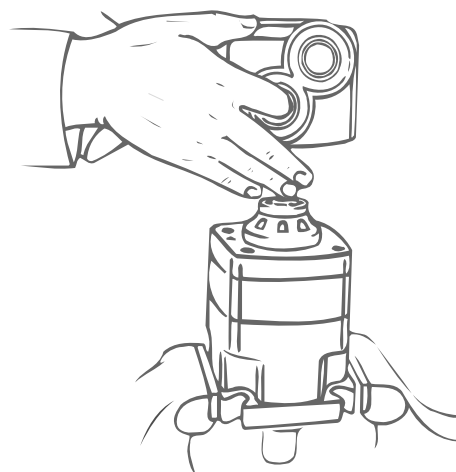
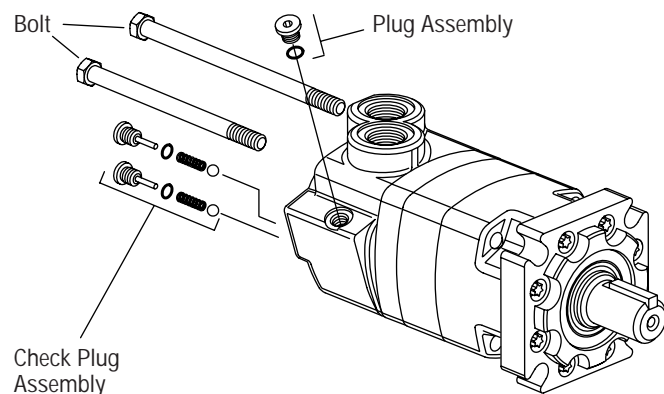
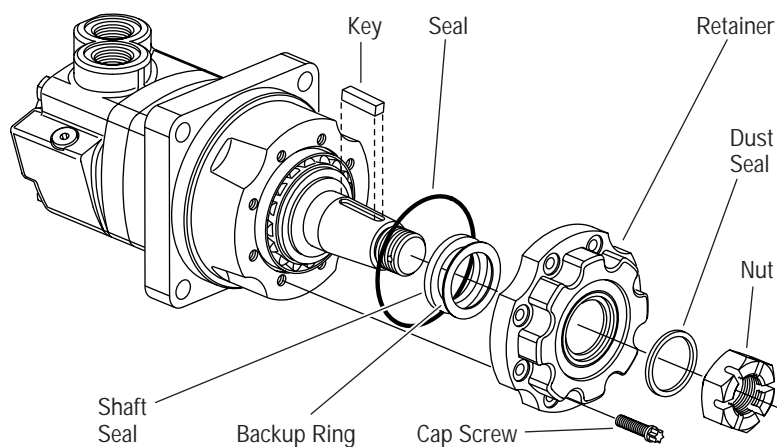

Figure 21
Figure 22
Figure 24
**44** Insert your finger through port of housing. Apply pressure to side of balance ring assembly. Hold ring in position until valve housing is in place (see Figure 21). Align case drain hole in housing with case drain hole in valve plate. Install valve housing against valve plate (see Figure 22).
**46** Install 2 check plug assemblies (ball, spring, plug with seal). Also install case drain plug with seal, parts shown in Figure 22 (plug torque shown in Figure 24).
A different bearing housing is used on wheel motors (see Figure 24). Other than this, the parts are the same as the standard motor and the same disassembly and reassembly procedures apply.